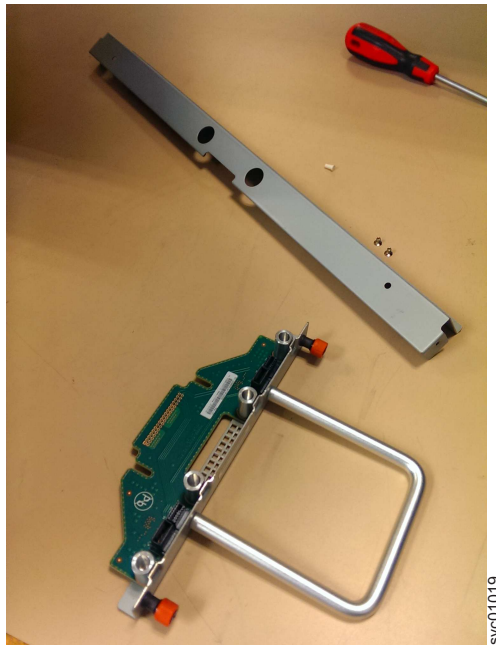

Figure 100. FIB parts for the chassis
1. Assemble the new FIB, cover, and the cover screws (shown in Figure 100) in a safe location.